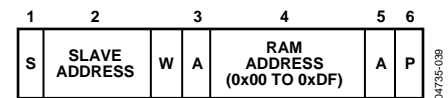

Figure 39. Setting a RAM Address for Subsequent Read
The SMBus specification defines several protocols for different types of read and write operations. The following abbreviations are used in Figure 39 to Figure 47:
- To write a register address to the RAM for a subsequent single byte read from the same address, or for a block read or a block write starting at that address, as shown in Figure 39.